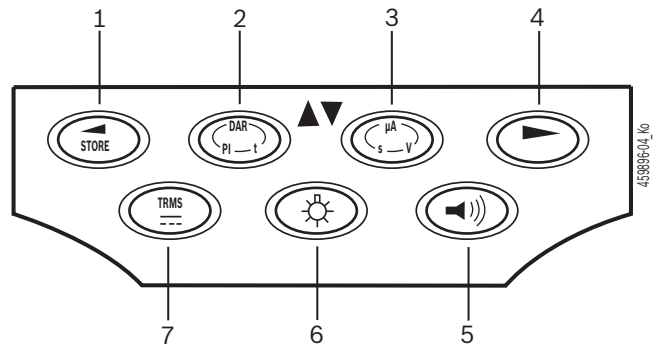

Fig. 3: FSA 050 function keys
LCD background illumination can be selected when the FSA 050 is switched on (fig. 3, pos. 6). The background illumination goes out automatically after 20 seconds.
The buzzer (fig. 3, pos. 5) can be activated for continuity measurement. The symbol appears on the LCD (fig. 5, pos. 4).
- ⓘ With a Bluetooth communication, **BT** appears (fig. 5, pos. 2) on the LCD display for approx. one second after pressing the selection button ► (fig. 3, pos. 4).